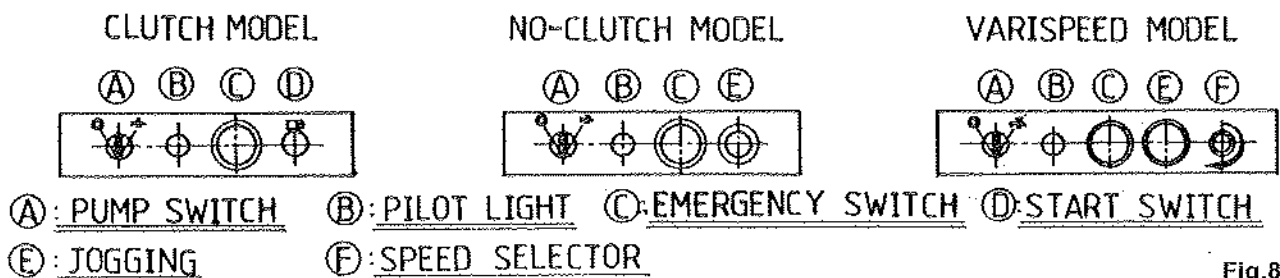

Fig.8
**ELECTRICAL CONTROL PANEL (See Fig.8)**